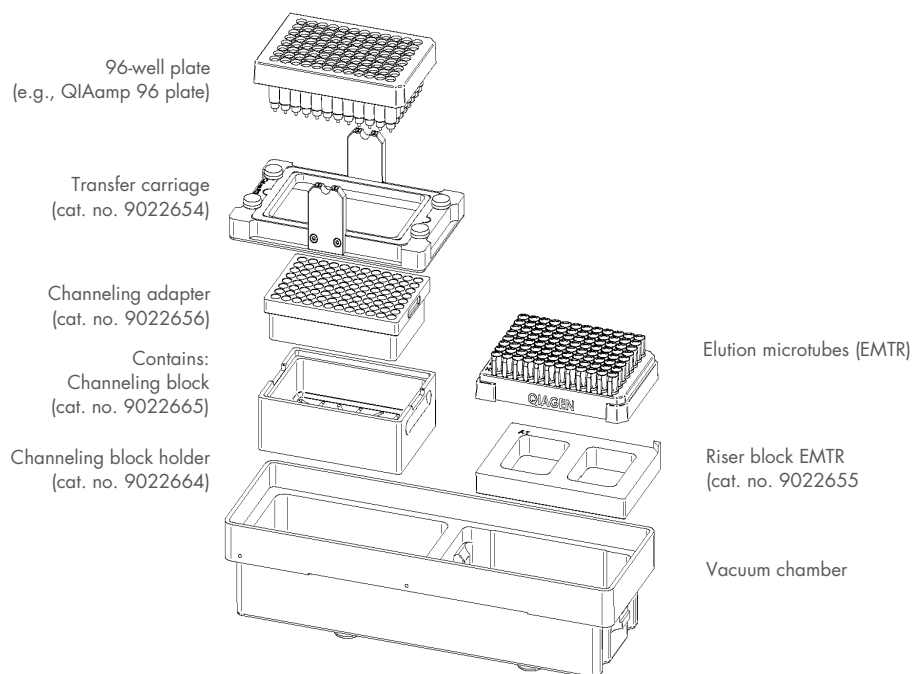

Figure 1. Assembling the vacuum chamber.
Figure 1 illustrates the assembly of the vacuum chamber. For further information, please refer to the *QIAcube HT User Manual*.
15. Prepare the vacuum chamber as shown in Figure 1 on page 15. This assembly is also described in the *QIAcube HT User Manual*.